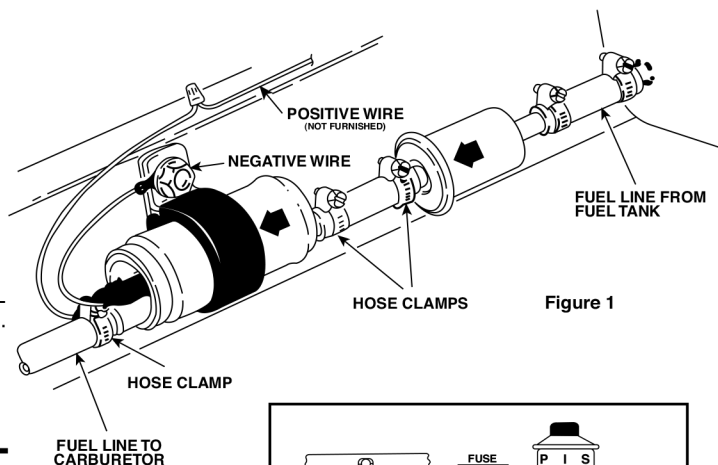

Figure 1
3. Select mounting location on the frame or other firm body member no more than 24" above the bottom of the fuel tank, away from all moving parts, exhaust system, and excessive road splash. Do not mount the pump in the trunk. It is imperative that a good quality in-line filter be used on the inlet side of the pump (between the fuel tank and the pump). (See Figure 1.) A new filter is supplied with this pump. **Failure to use a filter will void warranty.**